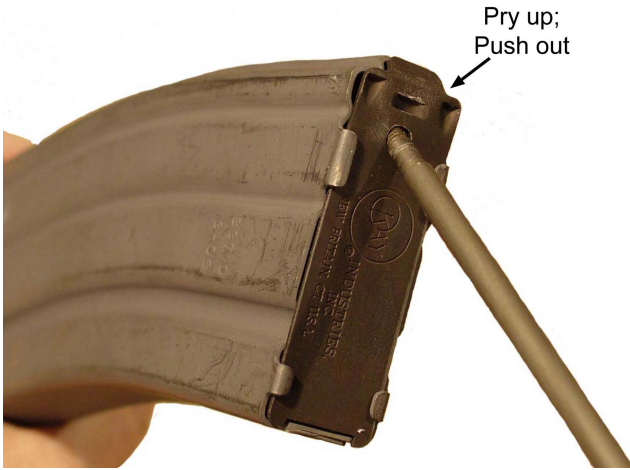

Figure 3-32. Release Magazine Base Catch
- (1) Release the base catch with the end of a cleaning rod. Refer to Figure 3-32.